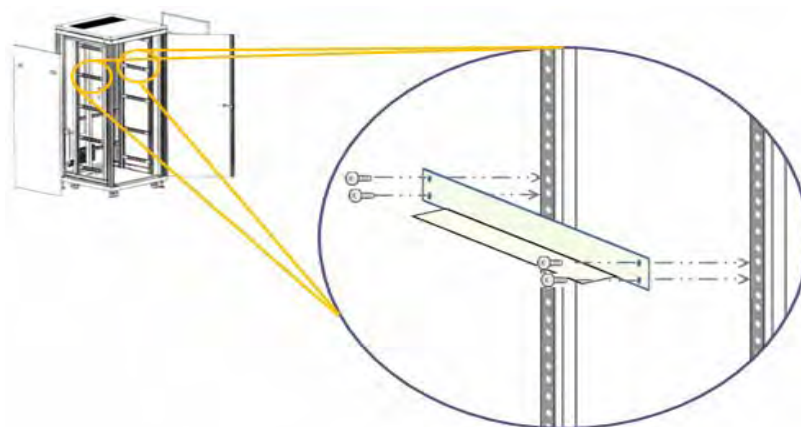

Figure 5 Rack Guide Bar Installation
2. If there is not, Use guide bar from the package and install it in the rack as shown in Figure 5.